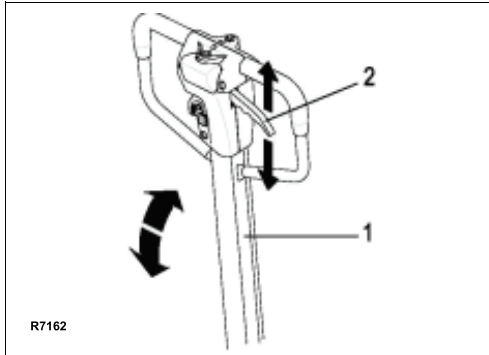

Figure 2-5 Lift Controls
Push down on control lever (2, Figure 2-5) and move control handle (1) up and down until the desired lifting height is achieved. Reset lever (2) to the neutral position.
Pull up on control lever (2, Figure 2-5) until the desired lower height is achieved. Reset lever (2) to the neutral position.